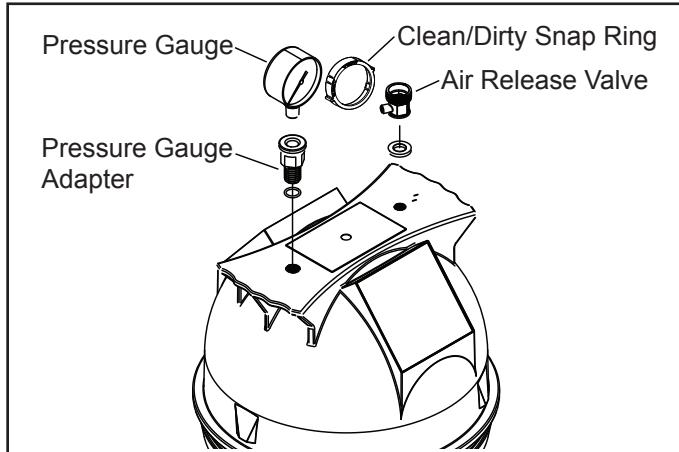

Figure 2. Pressure Gauge and Pressure Release Assembly
4. Install the pressure gauge and adapter assembly to the threaded hole marked "Pressure Gauge" at the top of the filter See Fig. 2.
5. Install the air release valve into the threaded opening marked "Air Release" at the top of the filter. See Fig. 2.